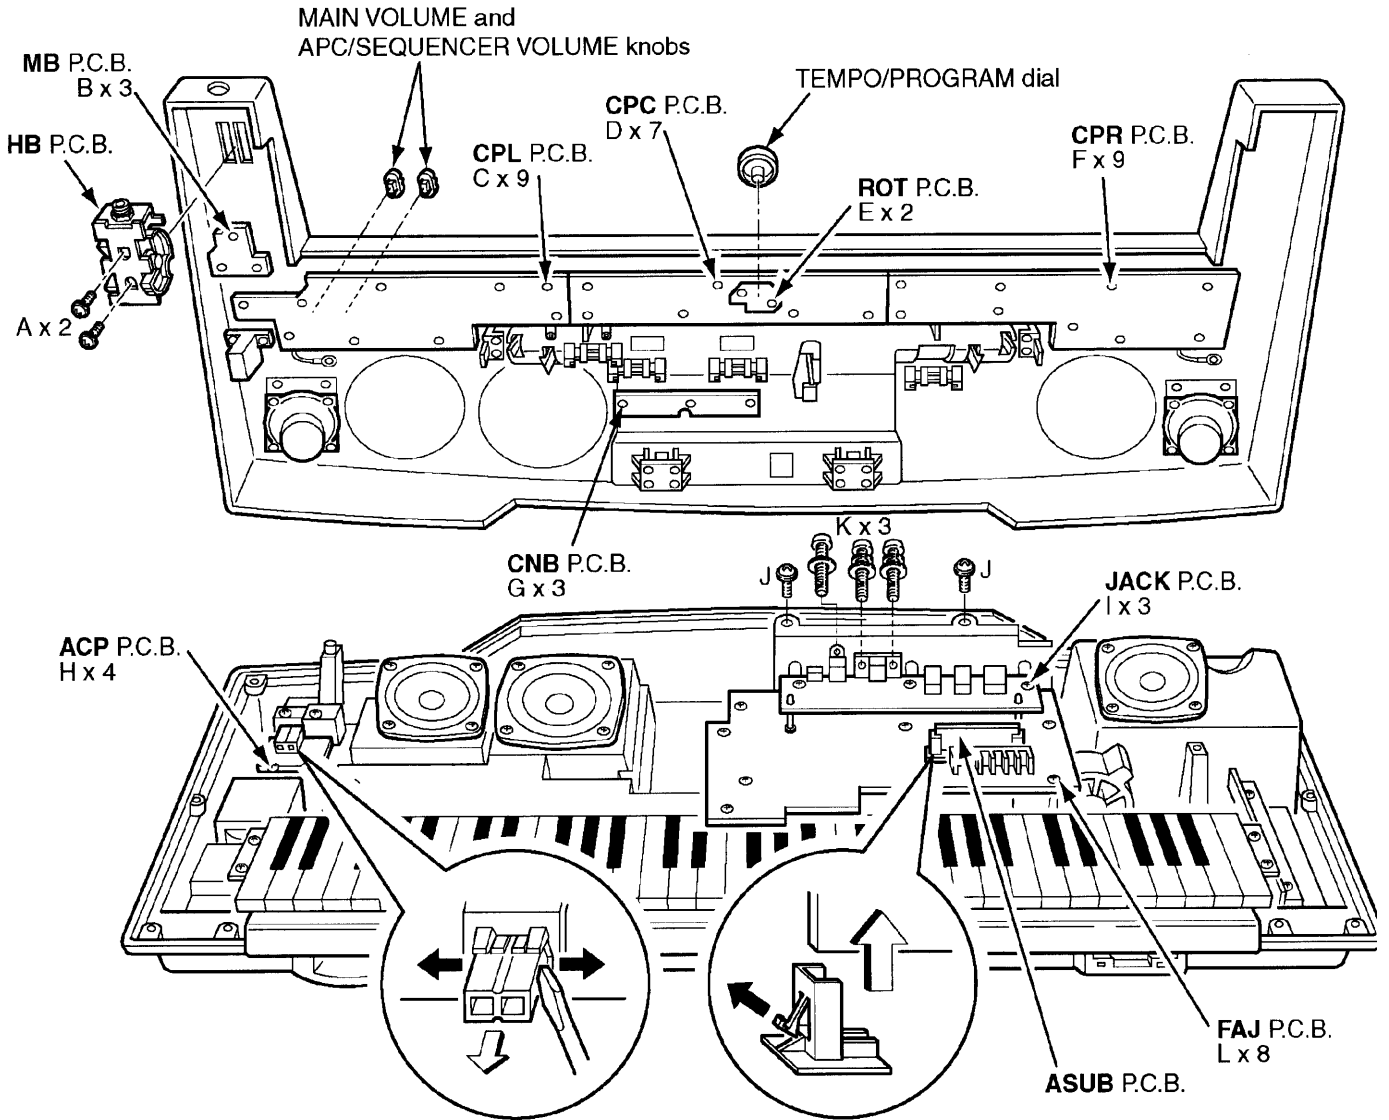

Figure-7
- Remove the HB P.C.B. mounting screws (A 2 pcs.) as shown in Figure-7.
- Remove the MB P.C.B. mounting screws (B 3 pcs.) as shown in Figure-7.
1. Pull off the MAIN VOLUME knob and APC/SEQUENCER VOLUME knob as shown in Figure-7.
1. Pull off the TEMPO/PROGRAM dial as shown in Figure-7.
- Remove the CPR. P.C.B. mounting screws (F 9 pcs.) as shown in Figure-7.
- Remove the CNB P.C.B. mounting screws (G 3 pcs.) as shown in Figure-7.
- Remove the ACP P.C.B. mounting screws (H 4 pcs.) as shown in Figure-7.
- Remove the FAJ P.C.B. mounting screws (L 8 pcs.) as shown in Figure-7.
- Remove the JACK P.C.B. mounting screws (I 3 pcs., J 2 pcs. and K 3 pcs.) as shown in Figure-7.
- Release the claws and pull off the ASUB P.C.B. as shown in Figure-7.